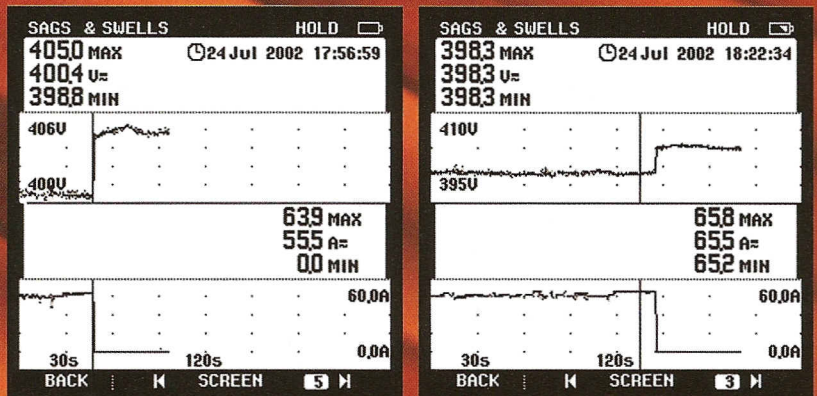

Fig 4: AC Line voltage and current variations with controlled operation (a) pipe (b) solid cylinder
Using the control unit, the system was then used to heat a pipe and a solid cylindrical material (fig 4). The power factor (PF) at the input was measured as 0.89 for the pipe and 0.93 for the solid cylinder. The power ( $P_p$ ) in the pipe heating was calculated as 19.8kW (equation 2) while the power for the solid cylindrical material case ( $P_s$ ) was 24.3kW